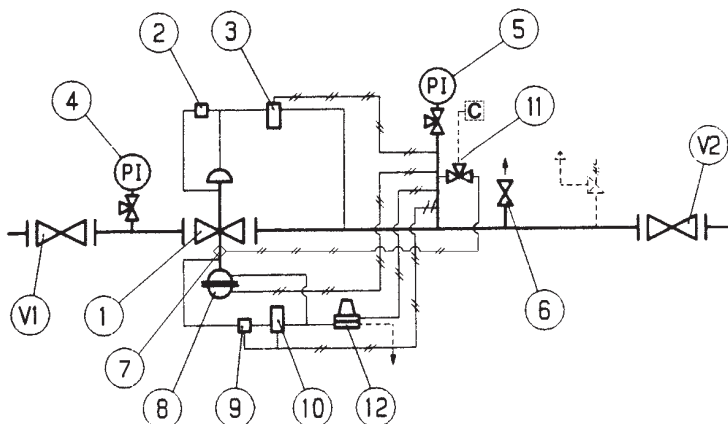

Fig. 17
5.3 IMBETRIEBNAHME "TERVAL" MIT SCHLISSBE-SCHLEUNIGER (ABB. 17)
5.3 MISE EN SERVICE "TERVAL" AVEC VANNE D'ACCELERATION (FIG. 17)